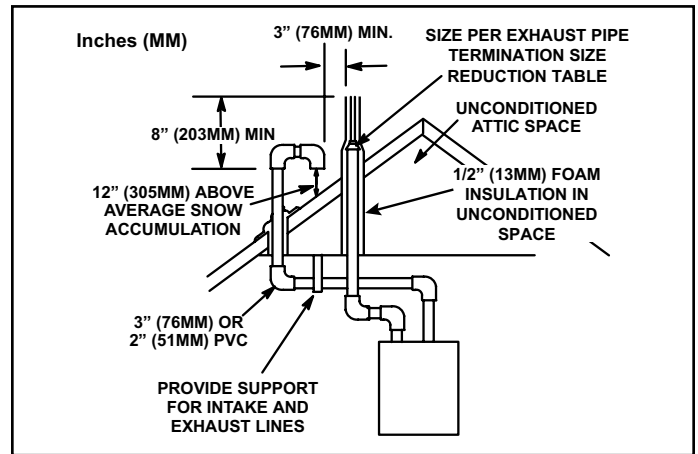

Figure 35. Direct Vent Roof Termination Kit (15F75 or 44J41)
Position termination according to location given in Figure 35 and Figure 43. In addition, position termination so it is free from any obstructions and 12" above the average snow accumulation.
Intake and exhaust pipes may be routed either horizontally through an outside wall or vertically through the roof. In attic or closet installations, vertical termination through the roof is preferred. Figure 35 through Figure 42 show typical terminations.
3. On roof terminations, the intake piping should terminate straight down using two 90° elbows (See Figure 35).